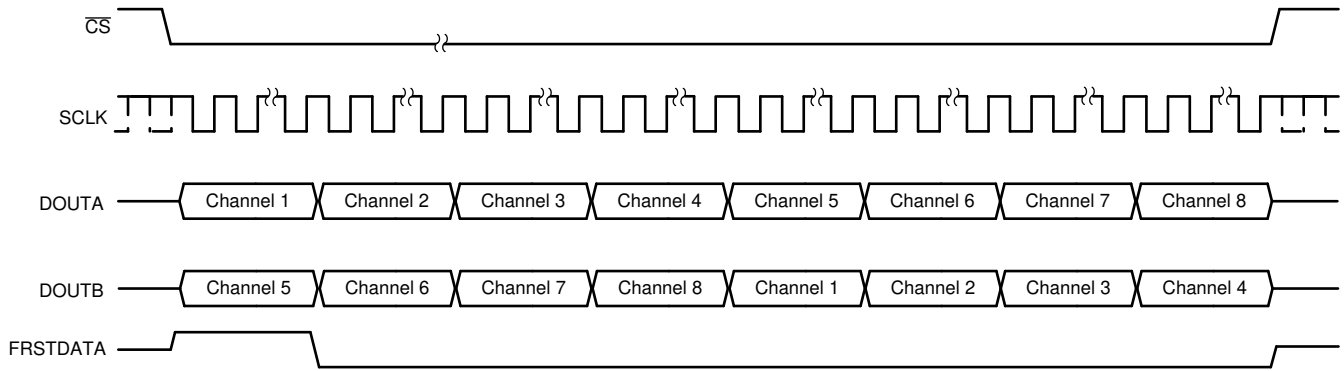

图 7-18. Data Read Back in the Serial Interface Using Either DOUTA or DOUTB Timing Diagram
- The conversion data can be read out of the device using only one of the two serial output lines, DOUTA or DOUTB. In this case, using DOUTA for output data read back is recommended because channel 1 data appear first on DOUTA followed by the data for other channels in ascending order. To read the data for all channels, provide a total of $16 \times 8 = 128$ SCLK cycles. This entire data frame can be created within a single \overline{CS} pulse or each group of 16 SCLK cycles can be individually framed by the \overline{CS} signal. The primary disadvantage of using just one data line for reading conversion data is that the throughput is reduced if a data read operation is performed after conversion.  Figure 7-18 illustrates this operation.
- Alternatively, only DOUTB can be used for reading the conversion data from all channels. In this case, everything else remains the same and the output bit stream contains data for all channels in the following order: channels 5, 6, 7, 8, 1, 2, 3, and 4.  Figure 7-18 illustrates this operation.